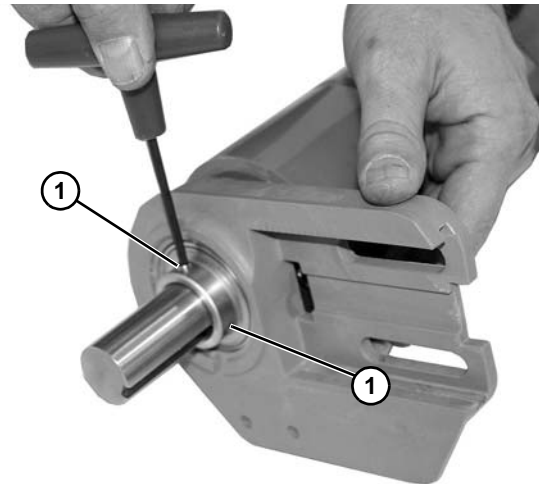

Figure 78
6. Loosen two set screws (**Figure 78, item 1**).